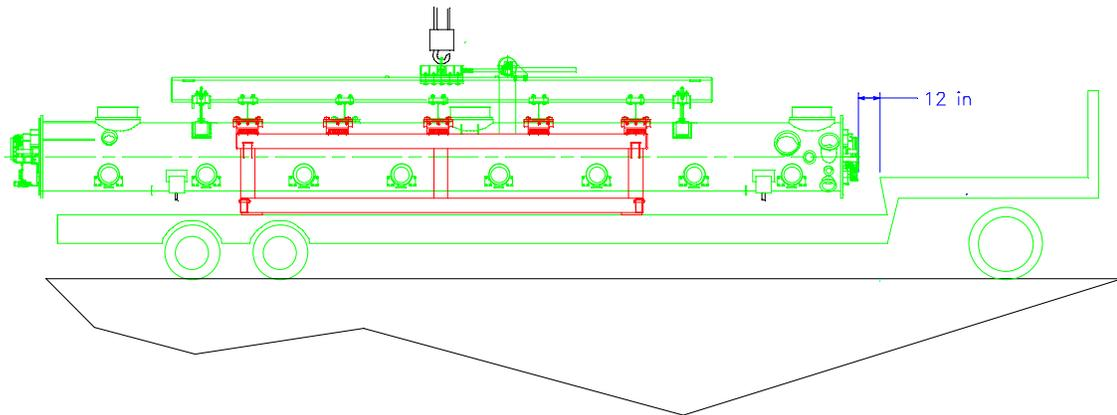

Figure 2. Loading CM1 assembly onto trailer.
- Load CM1 assembly onto air-ride trailer within red base as shown in Figure 2